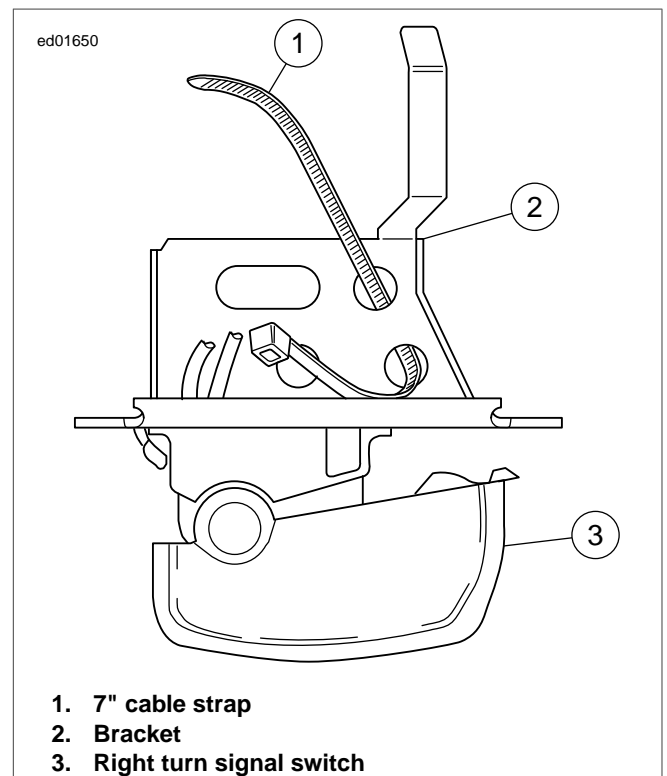

Figure 8-7. Hole Location Cable Strap Switch Bracket
4. See Figure 8-7. Insert tapered end of new 7-inch cable strap into round hole in turn signal switch bracket and then feed back through using the adjacent hole. Reserve the oblong hole for the bracket screw.